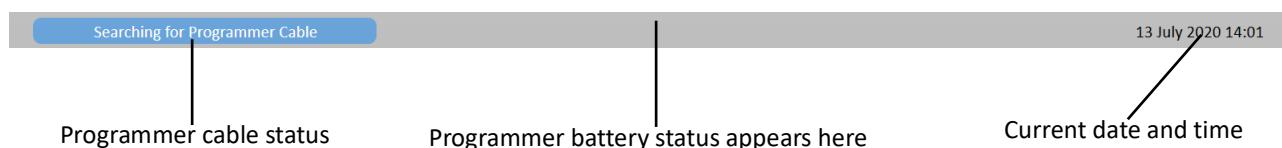

Figure 3-5. Start Screen Footer Information
Important status notifications appear at the bottom of the Start screen along with the current date and time (Figure 3-5).
- Programmer Cable Connected — Wireless link between tablet and programmer cable is established. Status background color is blue. Programmer cable controller status light is fully lit (see Figure 3-5). Connection buttons are enabled.
- Searching for Programmer Cable — Wireless link between tablet and programmer cable is not established. Status background color is white with pulsing border. Controller status light is partially lit (see Figure 3-5). Communication buttons are disabled.